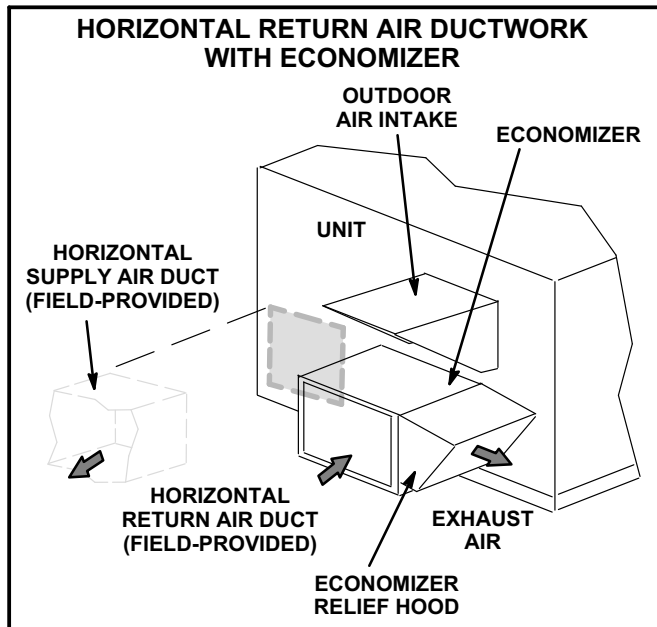

FIGURE 4
- 7- Cut a 20" wide X 14" high opening in the return air duct and install the economizer relief hood. See figure 4.